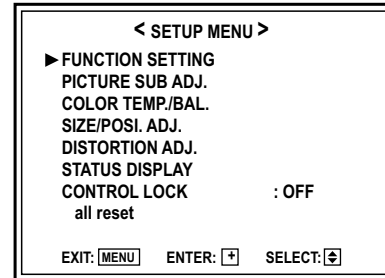
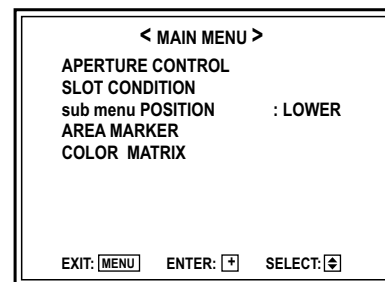

Fig. 1
Fig. 2
- (1) Disconnect the wire clamps and connectors as required.
- (2) Remove the two screws [12] and pull the CHASSIS BASE toward the front to remove it.
- (3) While disengaging the claw [D] on the CHASSIS BASE that is engaged with the rear of the SPEAKER, lift the SPEAKER to remove it (see Fig. 2).
- (4) Remove the three screws [13] and then remove the PB BRACKET.
- (5) Unplug the S. CORRECTION PWB from the connector on the MAIN PWB.
- (1) While holding down the  key, press the **VOL -** () key.
- (2) The SETUP MENU appears (Fig. 1).
- (3) Check the items in the SETUP MENU by comparing them with the data in the table on page 1-10. If any item is set differently, set it as required.
5. Check the MAIN MENU and set its items as required. Press the **[MENU]** key to display the MAIN MENU (Fig. 2). Check the items in the MAIN MENU by comparing them with the data in the table on page 1-11. If any item is set differently, set it as required.